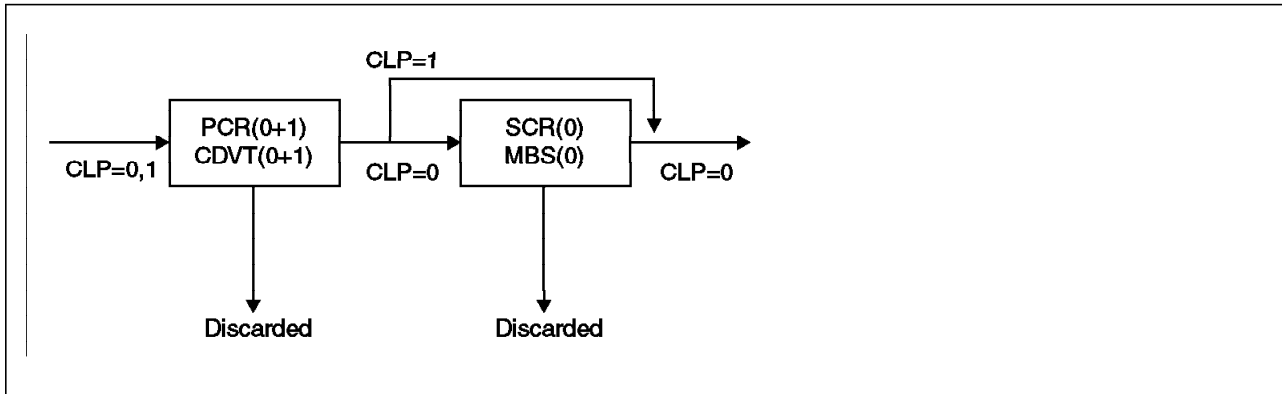

Figure 103. GCRA for Traffic Descriptor 7 (No Tagging)
Figure 103 shows the GCRA for traffic descriptor 7 checking MBS(0) and SCR(0) and discarding nonconforming cells.